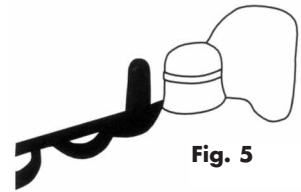
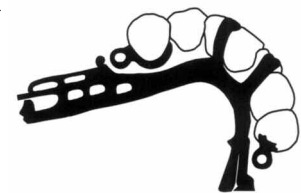

Fig. 5
Fig. 6
7. Wax the partial denture framework. Do not wax directly against the representation of the attachment. Create mechanical retention for the acrylic adjacent to the attachment representation (Fig. 5). For all partial dentures we recommend waxing temporary struts and rests for framework orientation and stabilization during try-in (Fig. 6). The struts normally should extend from the major connector over the incisal of the selected remaining dentition. Along with the rests and soft tissue stops, these will provide stable, accurate seating of the framework during fabrication.